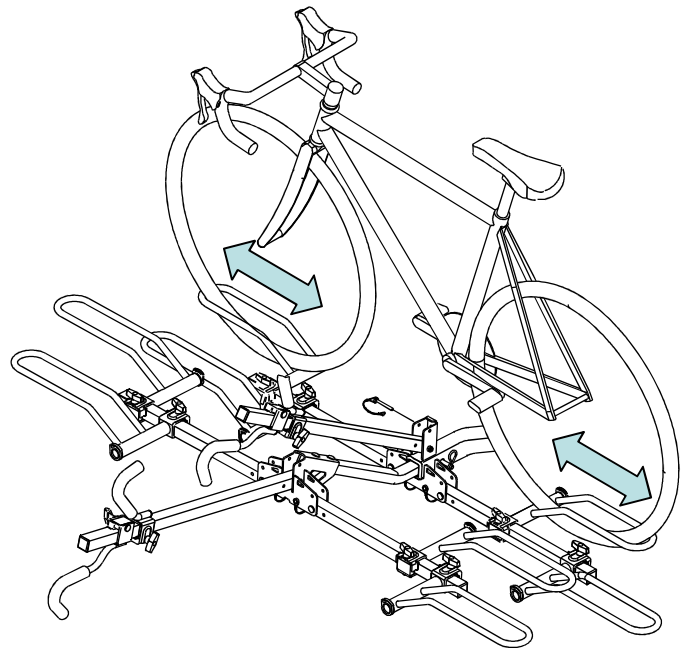

FIGURE 8
2. Load bicycle into Wheel Cradles. Adjust cradles to appropriate position. Ensure tire is well supported at both ends of Wheel Cradles. Tighten cradles to prevent movement. (Fig 8)